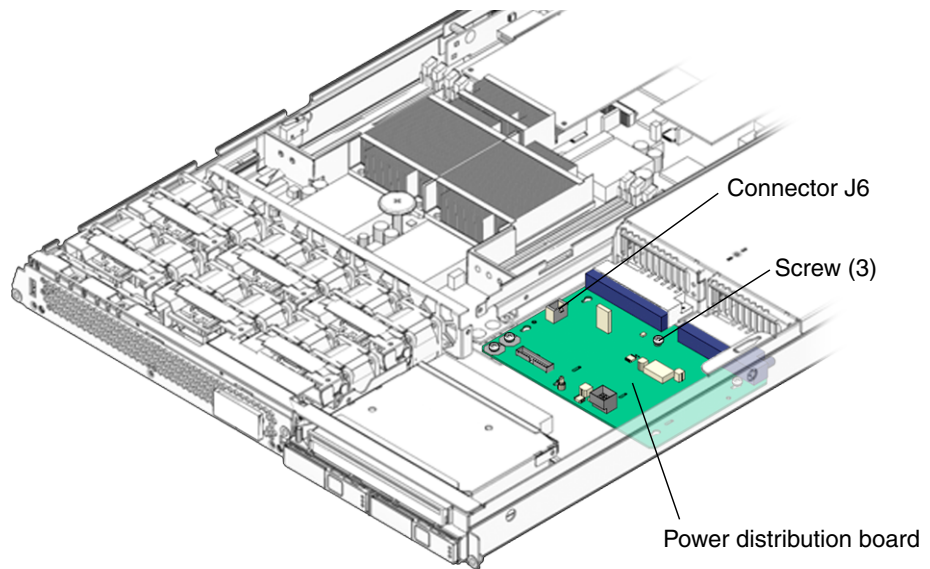

FIGURE 3-27 Removing the Power Distribution Board
12. **Remove the three screws that secure the power distribution board to the chassis** (FIGURE 3-27).
2. Loosely fit the power distribution board onto the locator pins in the chassis and slide the board toward the rear of the chassis (FIGURE 3-27).